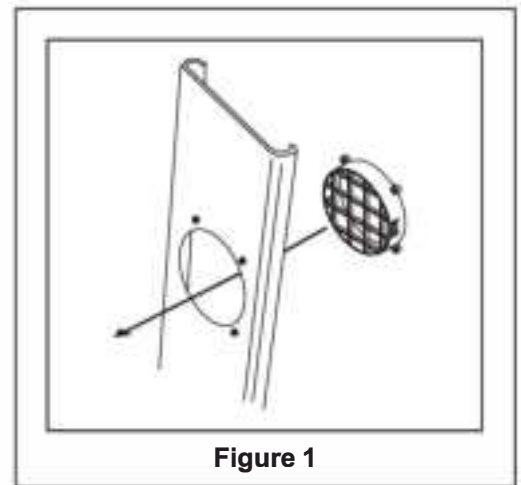

Figure 1
3. Insert the fixture through the back grooved side of the window slider hose-cutout, aligning the screw holes on the fixture with the screw holes on the unit. Place the screws in the holes from the front of the window slider kit and tighten. (Fig. 1)